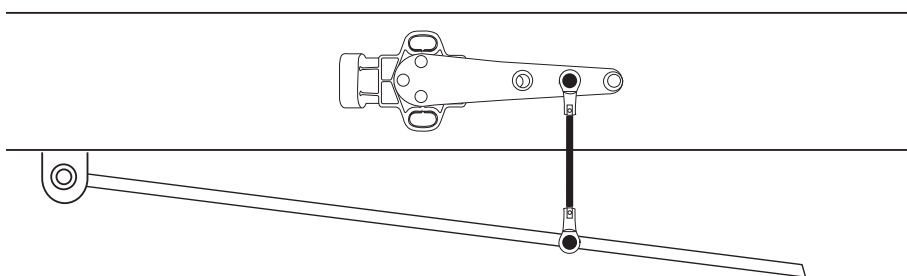

Fig. 11
3. Fasten by finger tightening the linkage to the sensor arm and ensure the sensor arm is at mid-position with respect to the sensor (Fig. 11). Do not fully secure the height sensor.